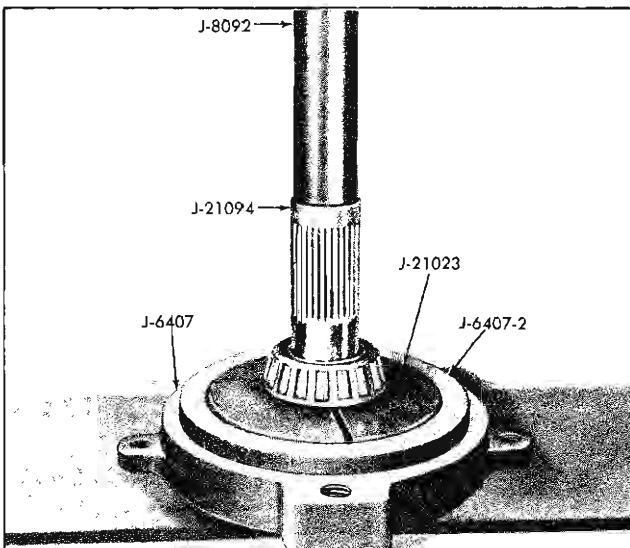

Fig. 4-37 Removing Front Pinion Bearing
1. Remove front pinion bearing—press off using J-21023 in J-6407 holder and J-8092 handle with adapter J-21094 (Fig. 4-37).